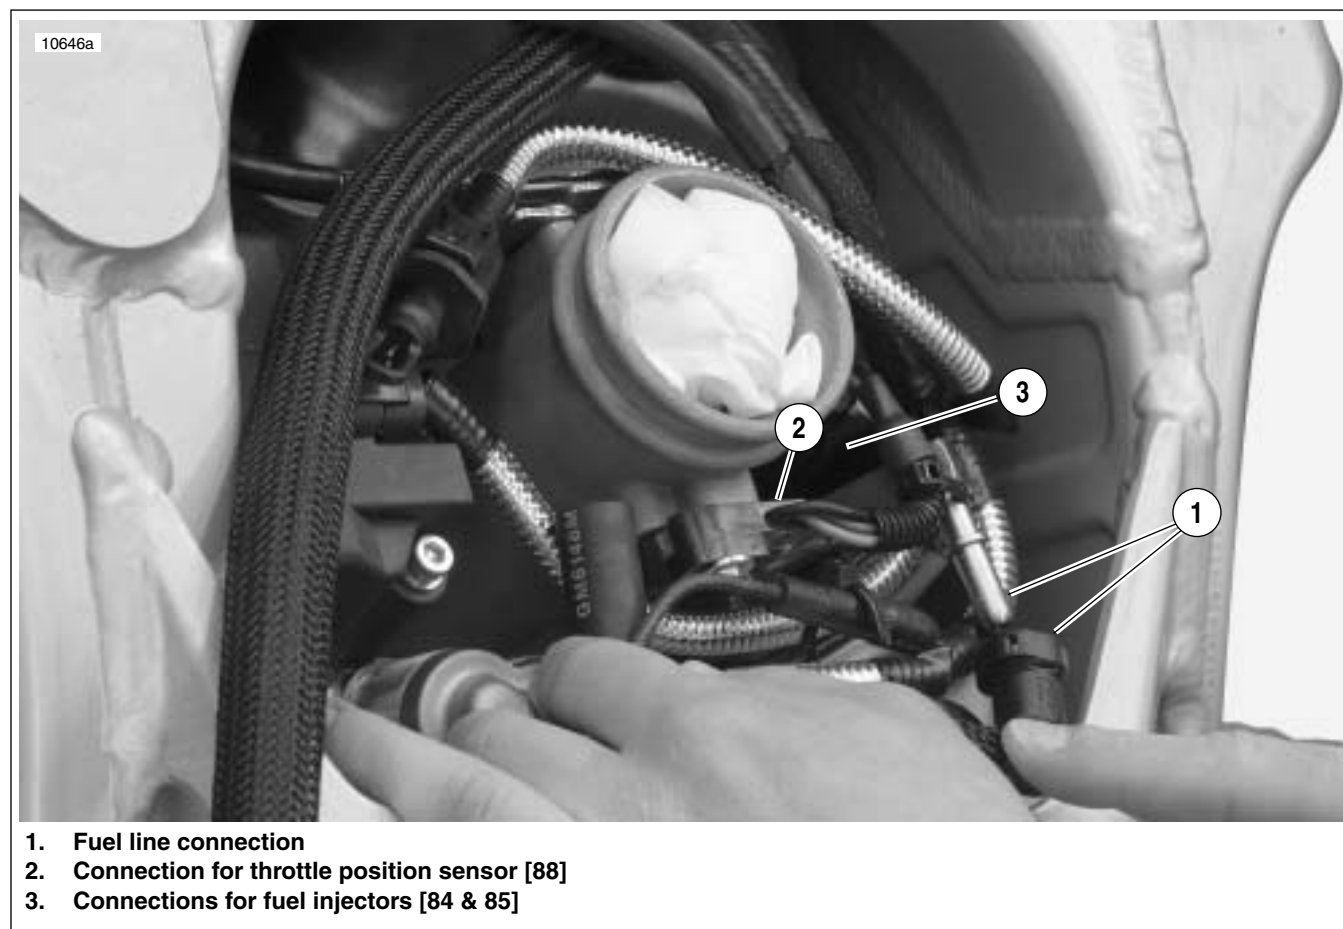

Figure 3-14. Fuel Line and DDFI Electrical Connections (Typical)
6. See Figure 3-14. Disconnect fuel line.